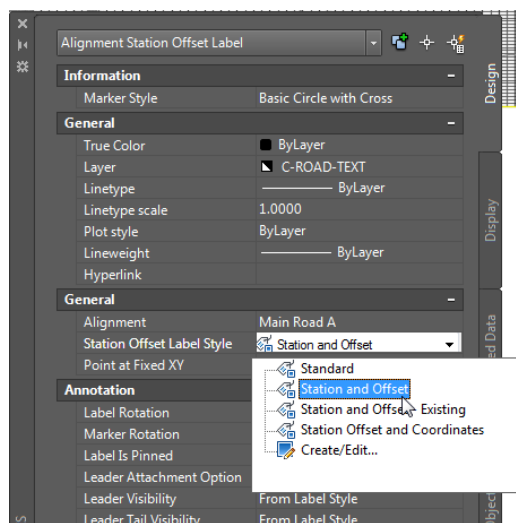

FIGURE 2.3 Assigning the Station And Offset label style to the label
3. Change the value for Station Offset Label Style to Station And Offset, as shown in Figure 2.3. Notice how the content of the label changes.